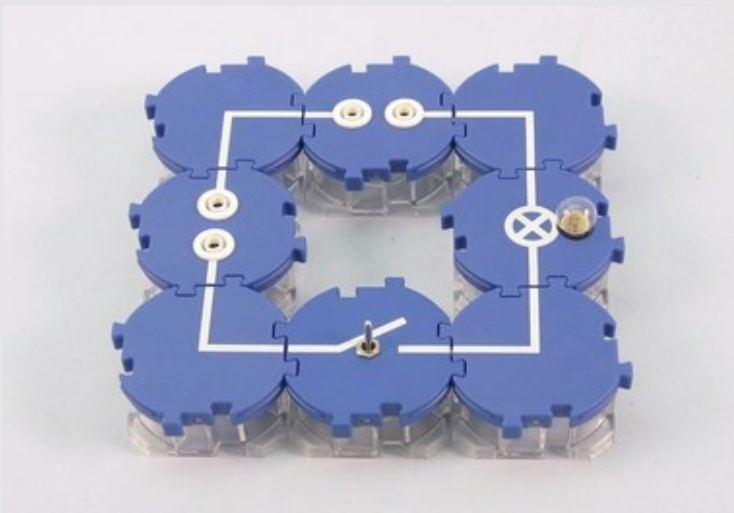
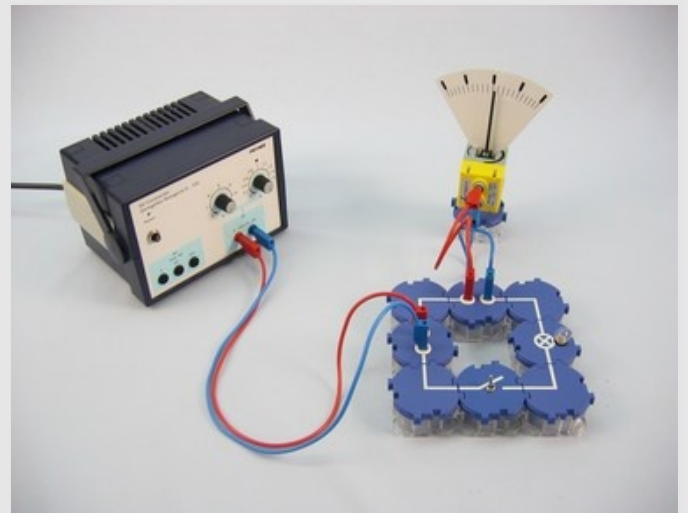

Fig. 4
Fig. 5
- Place the notch bearing of the galvanometer on a line module with socket and build the experiment according to Fig. 4 and Fig. 5.